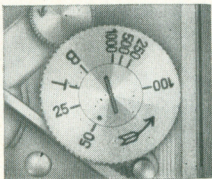

Fig. 6
from $1/25 \dots 1/1000$ th sec.: Lift small speed setting knob (10), see fig. 6, before or after having operated the lever, turn it in the arrow direction and let it snap back into position when exposure time and red mark